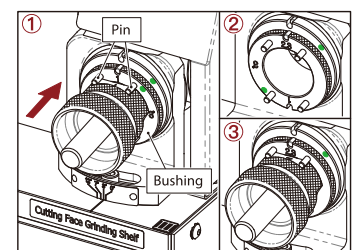

Fig. 8-3
3. 3 Flute Cutting Face Grinding (III) (Fig. 8-3)
- ① Insert the chuck set into the bushing on the Shelf (III), align Slot No.1 to the two pins where marked as No.1, push the chuck set gently until the grinding noise stops.
- ② Take the chuck set out, turn the bushing to No.(2-3), align No.(2-3) to the pin on the shelf, then insert it to the end.
- ③ Insert the chuck set into the bushing, align Slot No.2 to the two pins where marked as No.(2-3), push the chuck set gently until the grinding noise stops. Turn the chuck set to grind the Slot No.3 in the same way.